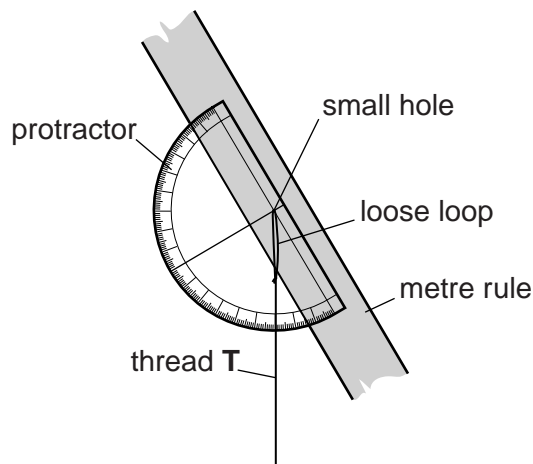

Fig. 1.2
- 8 Thread **T** should be approximately 15 cm in length such that, with no weights on the weight holder, weight **Z** should remain clear of the bench. The thread must be attached through the hole at the 85 cm mark with a large enough loop so that it swings freely as the angle varies (see Fig. 1.2). It may be necessary to have a loop at the other end of the thread to attach the 200 g mass. Thread **T** should not interfere with the protractor at the 85 cm mark or with the 200 g mass.